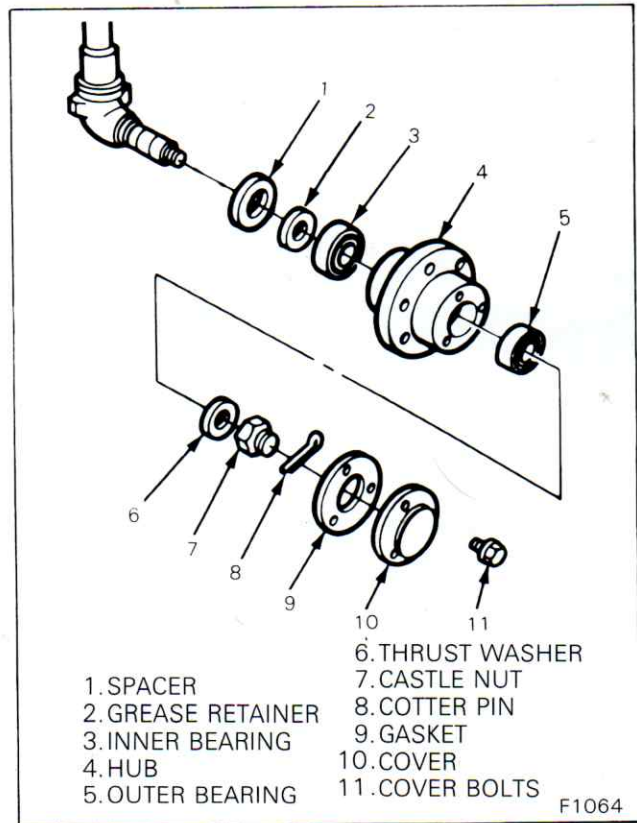

Figure 56 — Servicing Front Wheel Bearings — Two-Wheel Drive
2. Jack up one of the front wheels, remove the wheel and remove the cover, the cotter pin, and the nut, Figure 56. Remove the thrust washer, outer bearing, and then the hub.